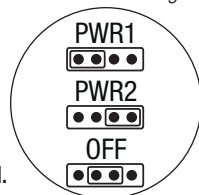

Fig. 1
2. Ensure all output jumpers [PWR1] - [PWR8] are placed in the OFF (center) position (*Fig. 1, pg. 3*).
4. Set each output [OUT1] - [OUT8] to route power from Input 1 or 2 (*Fig. 1, pg. 3*).
6. Output options: eFlow104NKA8(D) will provide up to eight (8) switched power outputs or eight (8) dry form "C" outputs, or any combination of both switched power and form "C" outputs, plus eight (8) unswitched auxiliary power outputs.